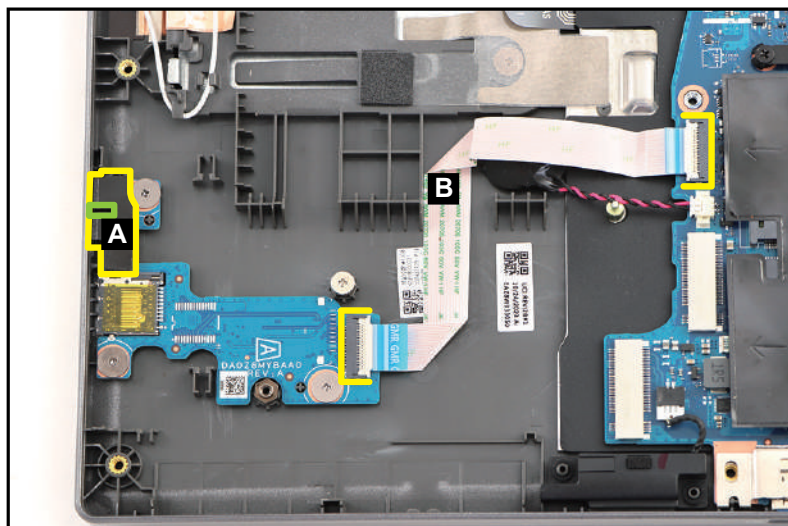

Figure 3-53. Card Reader Board Removal
1. Detach the sponge (A) from the card reader board (Figure 3-53).
2. Disconnect the card reader board FFC (B) from the card reader board and mainboard connectors (Figure 3-53). Then remove the FFC.